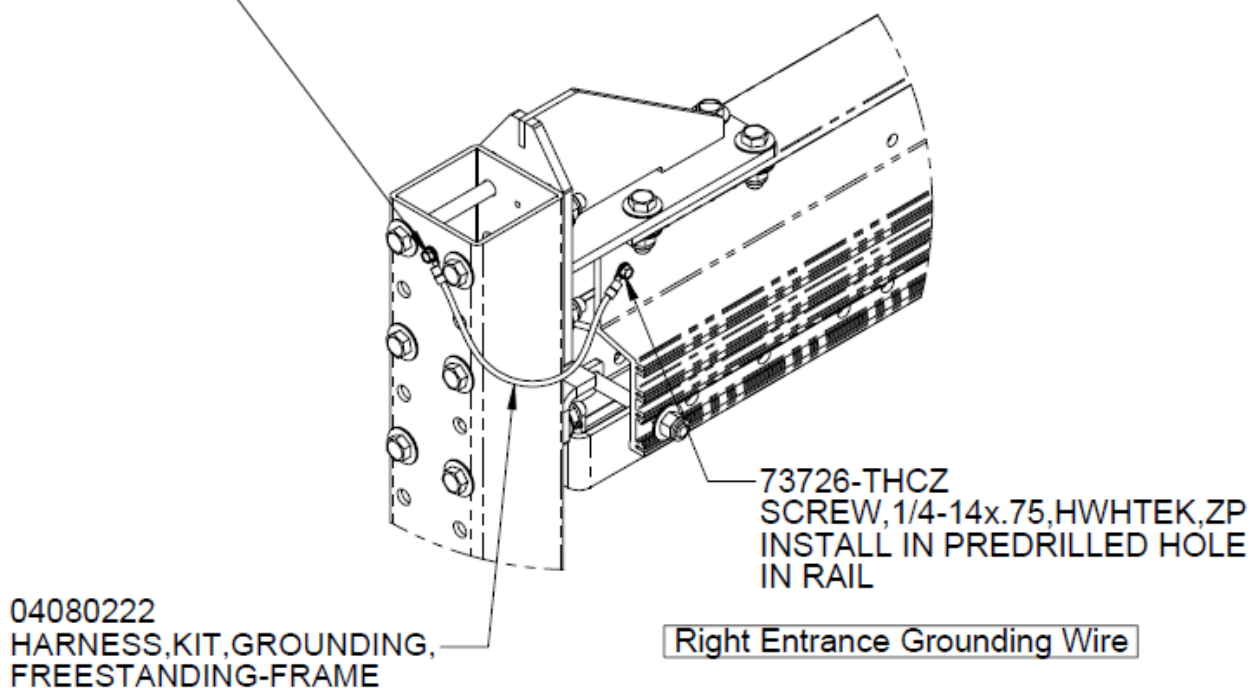

Figure 46 - Install Grounding Wires at the Right Corners
- Install the supplied ground wires from the grounding wire kit at each corner of the frame as shown in Figure 44 through Figure 46.